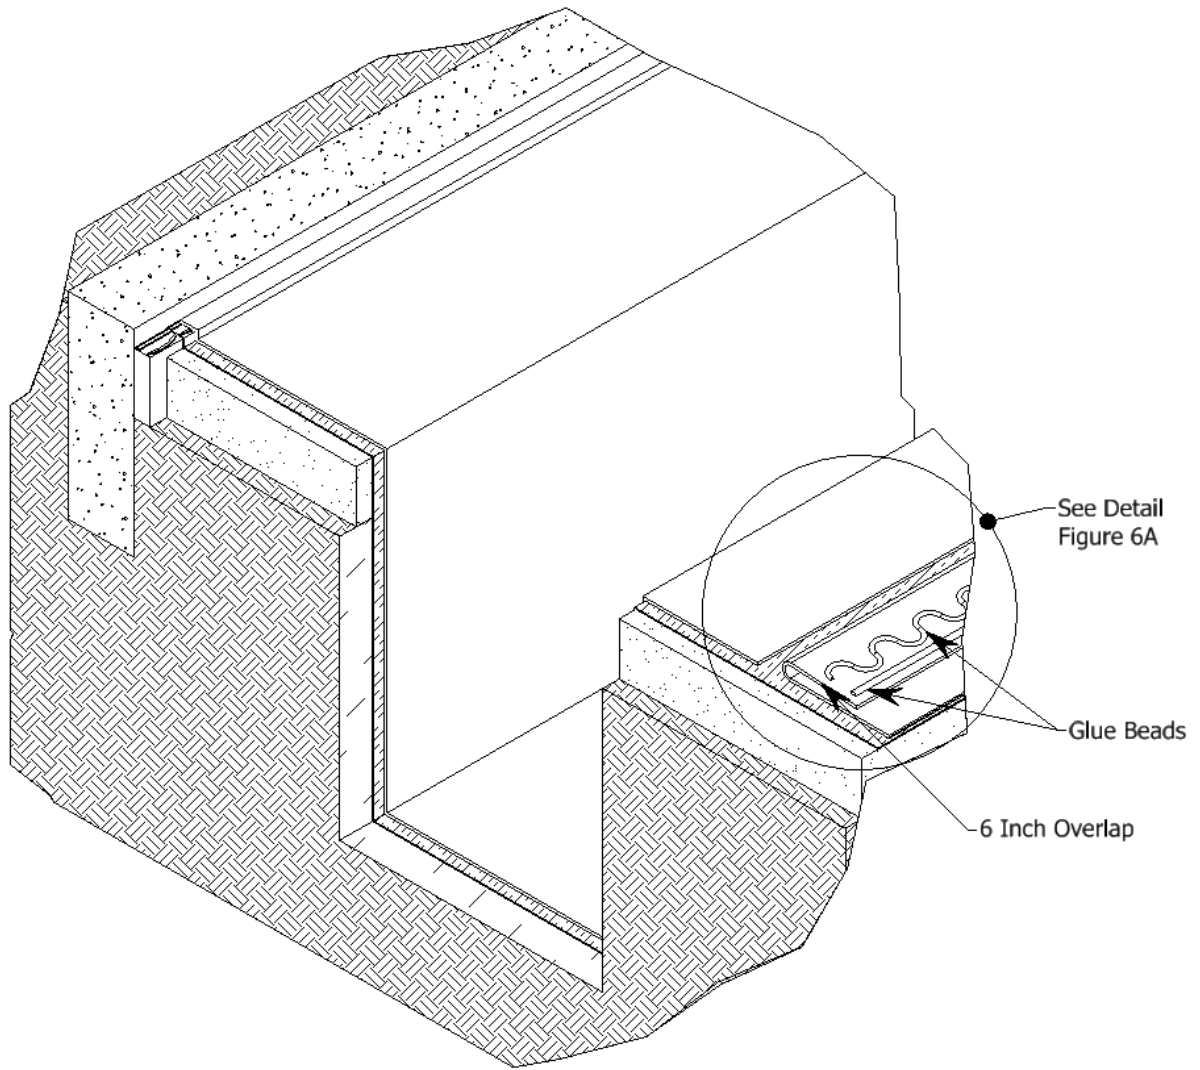

Figure 6
6. Install the impermeable field cavity liner. Refer to figures 6, 6a, 7, 7a, and 7b. Overlap and affix the impermeable liners according to the figures and per the liner manufacturer's specifications. Continue until the entire field cavity is covered with impermeable liner. Once the liner installation is complete it should be impermeable for the life of the field. Protect completed liner until drainage system completion. Do not allow vehicular traffic to come into direct contact with installed liner material. After installation, the liner shall be completely impermeable and approved and certified as such by the Geo Technical Engineer, Field Engineer and Owner's representative.